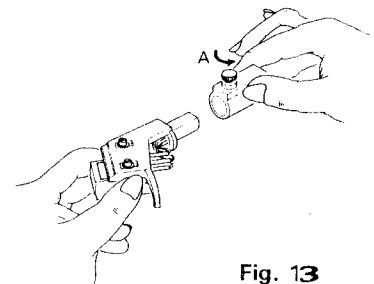

Fig. 13
### 5-(1) Removal and mounting of the headshell (Fig. 13)